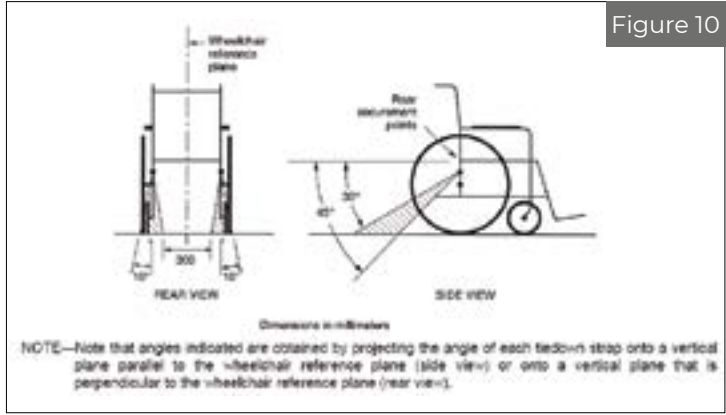

Figure 10
5. Press each Quattro release button once again to take up the slack in the webbing and create an angle of around 30 to 45° and within the rear view zone (Fig 10).